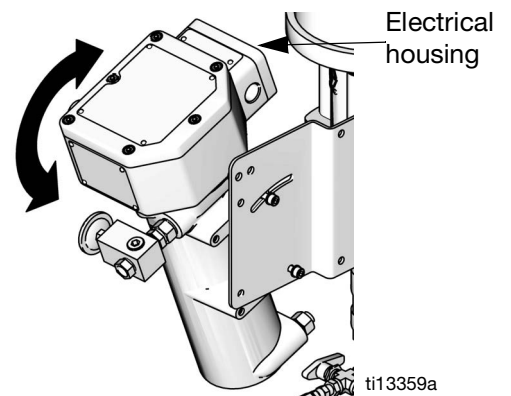

**FIG. 4. Cart Mount Non-Hazardous Location Wiring**
**Cart Mount Non-Hazardous Location Wiring.** See FIG. 4. Replace installed fitting with bushing (80), shipped loose. Attach strain relief bushing (79). Follow all directions in the Viscon HP Heater manual 309524 to connect the 120 V supplied electrical cord (78), or user-supplied cord for 240V applications.